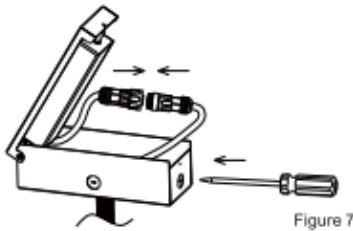

Figure 7
7. Connect the DC connector of the LED fixture with the driver's DC connector. Remove the holes of the driver box if necessary. (Figure 7)